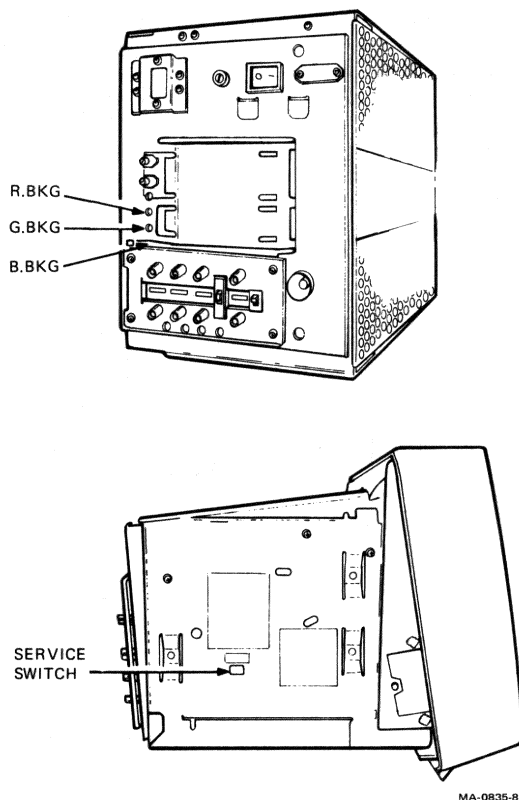

Figure E-17 Cutoff Adjustment
1. Turn R. BKG control clockwise (See Figure E-17.) until a red line just appears on the screen. Then turn control counterclockwise until the line just disappears.